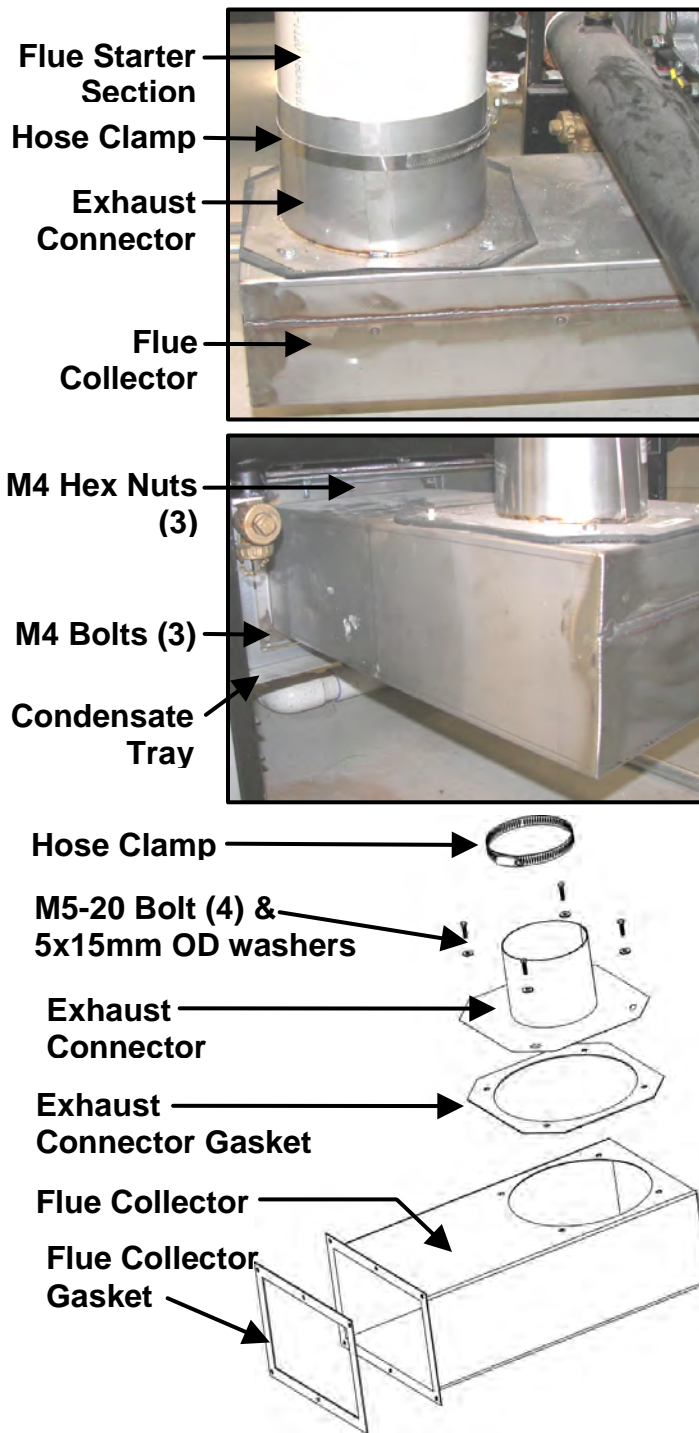

Figure 15: Flue Collector Parts and Assembly
1. Disconnect flue starter section from the flue collector by loosening the hose clamp (Figure 15).
2. Remove the flue collector and flue collector gasket from the condensate tray (Figure 15). The collector is secured to the tray with three (3) M4 bolts (bottom flange) and three M4 hex nuts (top flange). You will need to use a 7mm socket wrench with universal joint and extender to reach and remove the nuts and bolts.
3. Disconnect exhaust connector and exhaust connector gasket from the flue collector by removing the four (4) M5-20 bolts and washers shown in Figure 15.
5. Following inspection and cleaning refer to Figure 15, then reconnect the flue collector to the condensate tray using a **new** flue collector gasket (P/N 95250612).